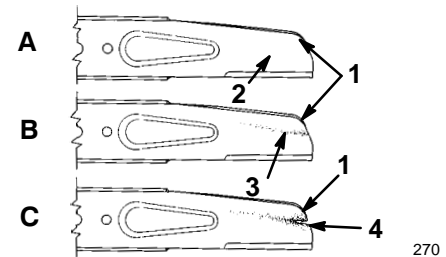

**Figure 17**
3. Tip the mower on its left side (Fig. 17). Avoid rotating the blade because starting problems may result.